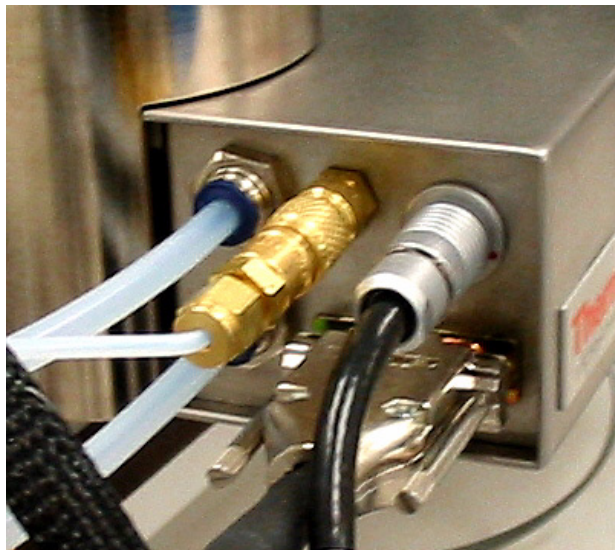

Figure 55. Gas lines and cable connections to the heater box connection panel
1. Disconnect the gas lines and cables at the heater box connection pane, as Figure 55 shows.